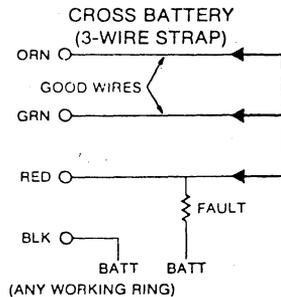

FIGURE 7
2.08 Hookup and Strapping for Crosses (3-wire strap) - For cross battery faults when two good wires are available, connect the test cord clips as shown in Figure 7. Place a **solid** strap across the two good wires and the faulted wire at far-end of cable. If no battery is available, you may connect the black clip to ground as an alternate method.